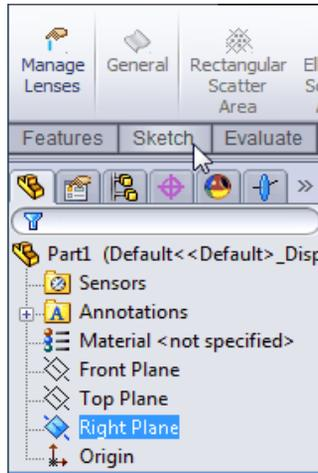
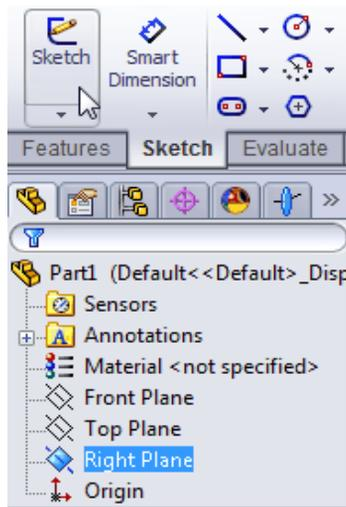

Figure 8 Clicking the Sketch tab on the Command Manager
Figure 9 Clicking the Sketch tool on the Sketch toolbar (upper left)
- 2 Click the **Sketch** tab on the Command Manager, and click the **Sketch** tool. See Figure 8 and Figure 9.